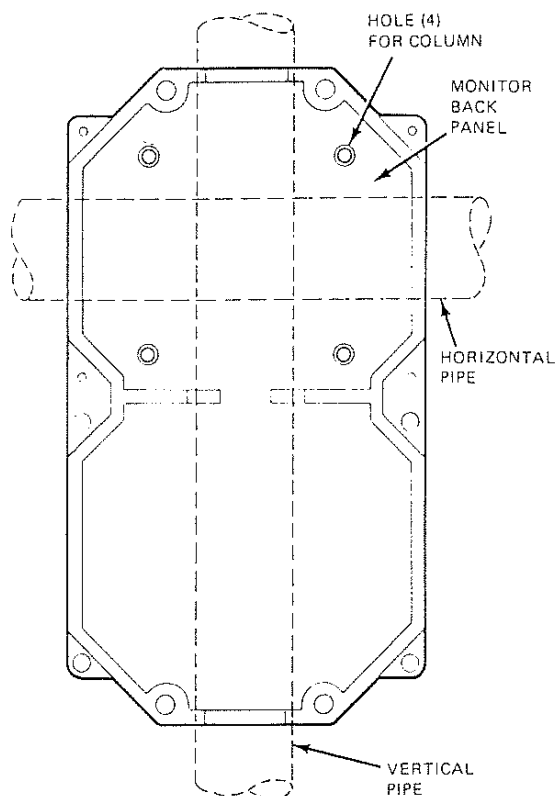

Figure 6. Back Panel of Monitor with Mounting Holes Shown for Pipe Mounting
1. Screw four columns into Monitor back panel in four locations as shown in Figure 6.